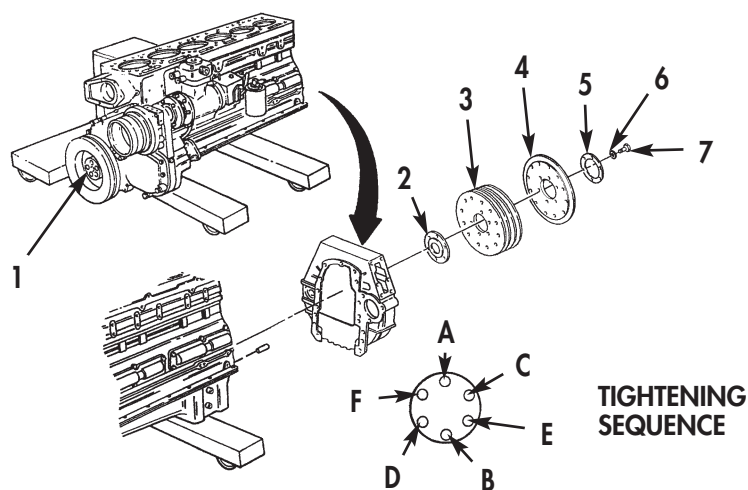

Figure 15. Flexplate Installation (Big Cam III).
21. Apply a thin coat of lubricating oil to threads of screws (7) and face of washers (6)
22. Install retaining plate (2), flexplates (3), flywheel (4), and washer bearing (5) on crankshaft (1) with six screws (7) and washers (6). Tighten screws (7) 200–220 lb-ft (271–298 N•m) in sequence shown in figure 15.